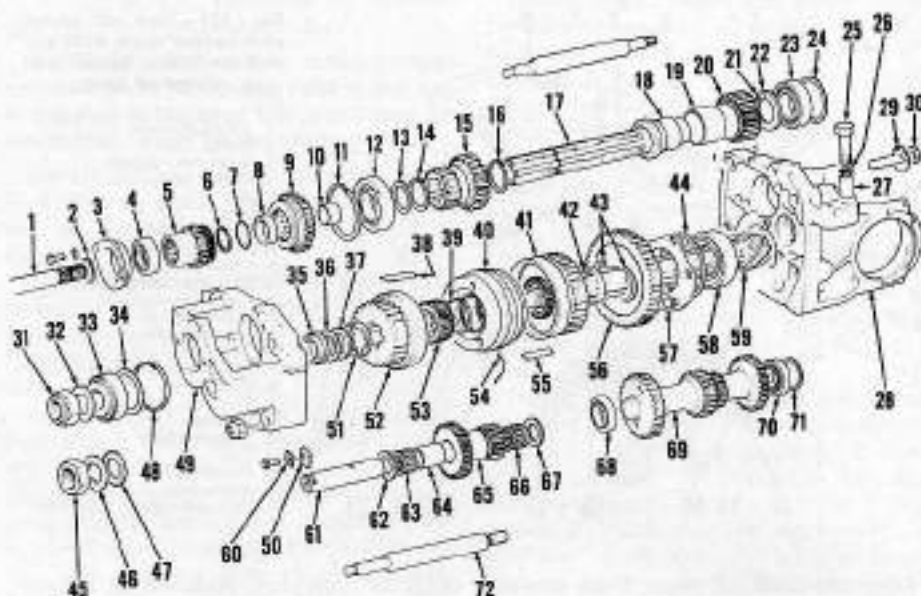

Fig. 154—Exploded view of 12 speed synchronesh transmission used on 1190, 1290 and 1390 models.
**264. DISASSEMBLY.** Place transmission in a suitable transmission support stand and remove mounting bolts from rear bearing carrier (3—Fig. 154), then remove input shaft (1). Remove snap rings and front bearing carrier. Remove rear bearing carrier (3). Remove seal (8) and "O" ring (7) from inside input gear (5). Remove snap rings (2 and 6) and remove input gear (5). Remove "O" ring from front bearing carrier and seal from inside front bearing carrier.
Use wooden wedge to lock differential assembly and noting pinion nut (31—Fig. 154) has left-hand threads, remove nut (31), washer (32) and bearing cone (33).
(49—Fig. 154). Remove high/low slow gear (9). Remove locating plate (50), idler shaft (61) and idler gear (65). Remove thrust washers (62 and 67). Remove bearings (63 and 66) and spacer (64). Remove all remaining bearing
Remove first/reverse gear shift fork. Remove spacer (35—Fig. 154), note number and thickness of shims (36) and remove shims. Remove spacer (37), washer (51), third gear (52) and the six bearing pads (38). Remove shift fork and synchronizer together, sliding shift fork off of spacer bar. Remove front synchronizer gear (53), snap ring (39), rear synchronizer gear (not shown), second gear (41) and the six bearing pads (55). Remove retaining washer (42) and split rings (43). Remove first/reverse gear (56). Remove pinion shaft retainer plate (57) and note number and thickness of shims (44), then remove shims. Remove pinion shaft (59) and press bearing (58) off shaft.
If shifting into second or third has been difficult, examine synchronizer friction surfaces and the six synchronizer springs (55—Fig. 154). Slight radial clearance (looseness) in synchronizer is normal and the six springs should slide easily into their grooves with no binding. No attempt should be made to disassemble synchronizer assembly as the six centralizer springs are the only renewable parts.
With pinion shaft (59—Fig. 154), bearing (58) and correct thickness of shims (44) in position install retainer plate (57) and tighten retaining bolts to 40 N·m (30 ft.-lbs.) torque. Install first/reverse gear (56) with shift fork groove toward retainer plate (57). Install split rings (43) and retaining collar (42). Apply grease to the six bearing pads (55) and install pads in splines of pinion shaft (59). Install second gear (41) on pinion shaft and bearing pads with gear side toward retainer plate (57). Install rear synchronizer gear (not shown) with slotted side against second gear (41). Install snap ring (39) and front synchronizer gear (53) with slotted side of gear away from snap ring (39). Make certain front and rear synchronizer splines (teeth) are aligned. Place shift fork in groove on synchronizer and install synchronizer and shift fork together making certain shift fork slides easily on spacer bar. Apply grease to the six bearing pads (38) and install in splines of pinion shaft (59). Install third gear (52) on pinion shaft and bearing pads with gear side towards threaded end of pinion shaft. Install thrust washer (51) and spacer (37). **DO NOT** install shims (36) or spacer (35) at this time.
**267. REAR INPUT SHAFT ASSEMBLY.** Press bushing (10—Fig. 154) into rear input shaft (17). Press bushing (19) into reverse idler gear (20).
**268. INTERMEDIATE SHAFT ASSEMBLY.** Install bearings (68 and 70—Fig. 154) on intermediate shaft (69). Remove shims (71) from under bearing cup in rear end plate (28) and reinstall bearing cup. Place intermediate shaft in position and install front end plate (49). Tighten spacer bar nuts to 95 N·m (70 ft.-lbs.) torque. Mount dial indicator on rear end plate so probe contacts rear gear of intermediate shaft. Measure and note amount of end play in intermediate shaft. Remove front end plate, intermediate shaft and rear bearing cup and install thickness of shims (71) to provide 0.051-0.102 mm (0.002-0.004 inch) end play. Install bearing cup and intermediate shaft.
**269. FRONT END PLATE ASSEMBLY.** Install bearings (63 and 66—Fig. 154) and spacer (64) into range idler gear (65). Bearing cages should both be slightly below end surface of range idler gear when installed. Spacer (64) may be carefully shortened, if necessary. Measure assembled length of range idler gear (65) plus thickness of both thrust washers (62 and 67). Measure gear mounting space in front end plate. Gear mounting space in front end plate must be 0.254-1.270 mm (0.010-0.050 inch) more than assembled length of range idler gear and thrust washers to assure clearance for bearing cages to rotate. Lubricate as assembling and install range idler gear and thrust washers in front end plate. Install idler shaft (61), locating plate (50), tab washer (60) and bolt. Tighten bolt and secure with tab washer. Place high/low slow gear (9) in front end plate with shift fork groove up. Make certain all bearing cups, snap rings and spacers are in place and install front end plate assembly on transmission assembly making certain
**270. PINION SHAFT END PLAY.** Install all shims (36—Fig. 154) removed during disassembly PLUS an additional 0.254 mm (0.010 inch) thick shim. Install shoulder washer (35) with flat side against shims (36). Install bearing cone (33), washer (32) and nut (31). Tighten nut (31) to 271 N·m (200 ft.-lbs.) torque. Mount dial indicator on front end plate so probe contacts end of pinion shaft. Measure and note amount of end play. Remove nut, washer, bearing and shoulder washer and remove shim thickness equal to measured amount of end play. Reinstall shoulder washer, bearing, washer and nut. Tighten nut to 271 N·m (200 ft.-lbs.) torque and check end play. Correct end play is 0.051 mm (0.002 inch) end play to 0.051 mm (0.002 inch) preload.